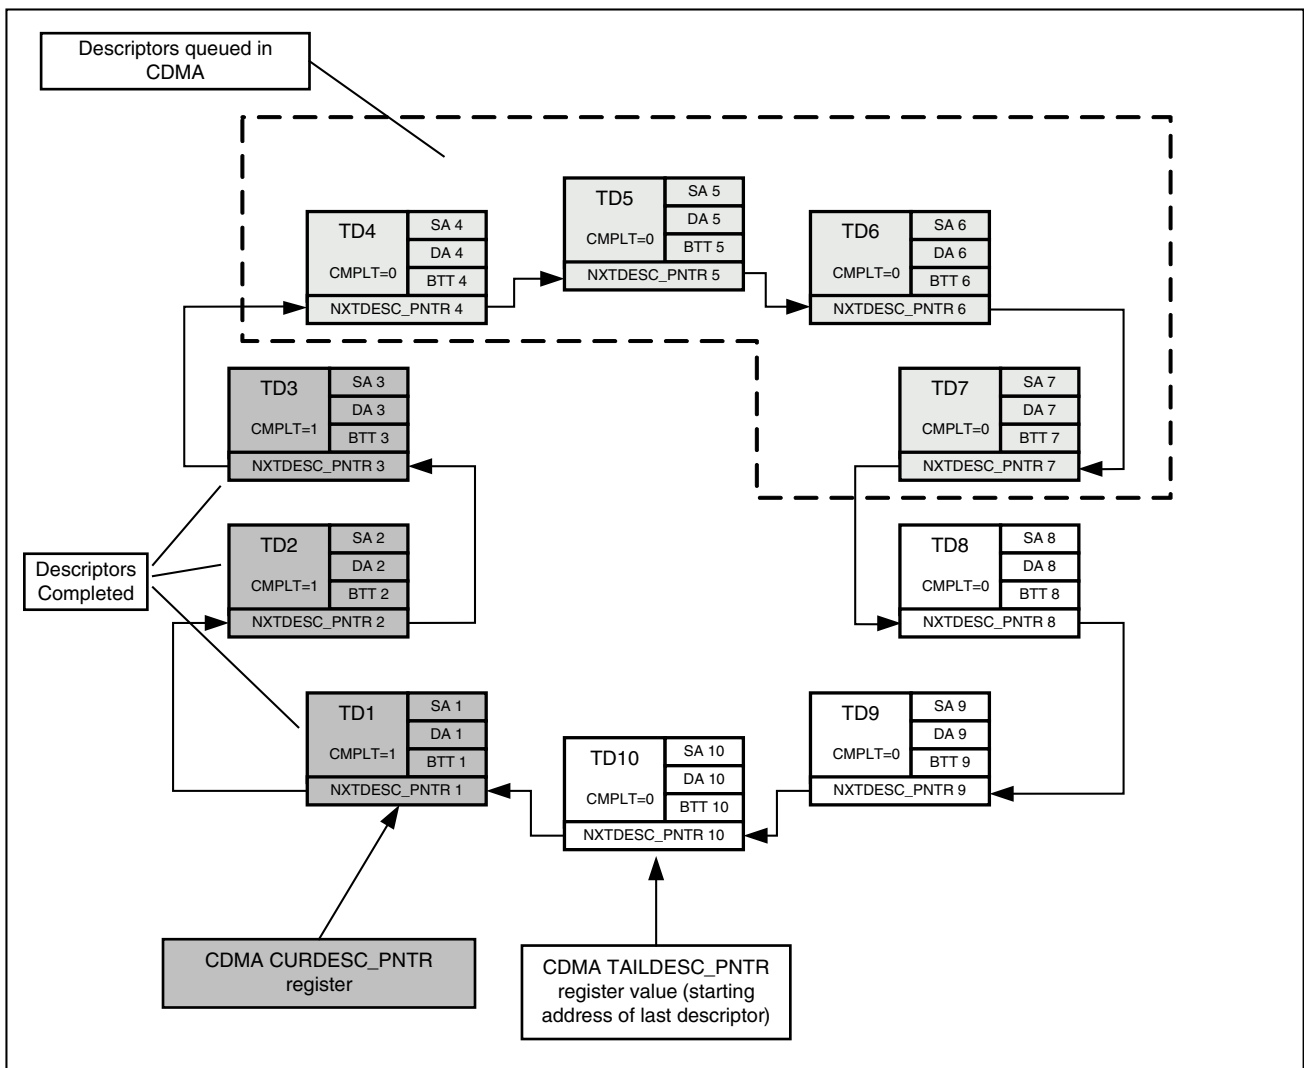

Figure 19: Continued Execution
- When the DMA transfer associated with a descriptor is finished by the CDMA DataMover function, the status of the transfer is scored by the CDMA SG function and then written into the STATUS word of the associated descriptor in system memory. The updated STATUS word also has the Cmplt bit set to 1 indicating the CDMA has completed processing of the descriptor. This is shown in Figure 19.